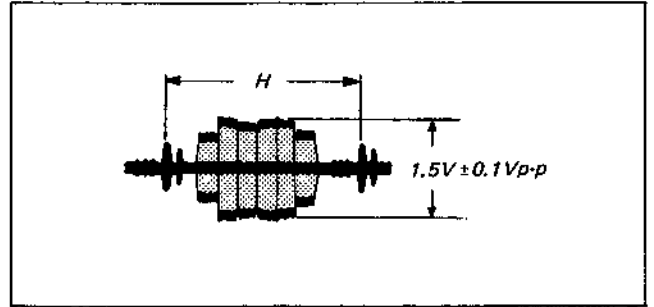

Fig. 4-4-23. ACC adjustment
- (1) Supply the VTR with the colour bar signal and set up the E-E mode.
- (2) Connect the oscilloscope to TP22 (pin 8 of IC2).
- (3) Adjust T5 for minimum output level.
- (4) Adjust RV16 for $1.5\text{ V} \pm 0.1\text{ Vp-p}$. (See Fig. 4-4-23.)